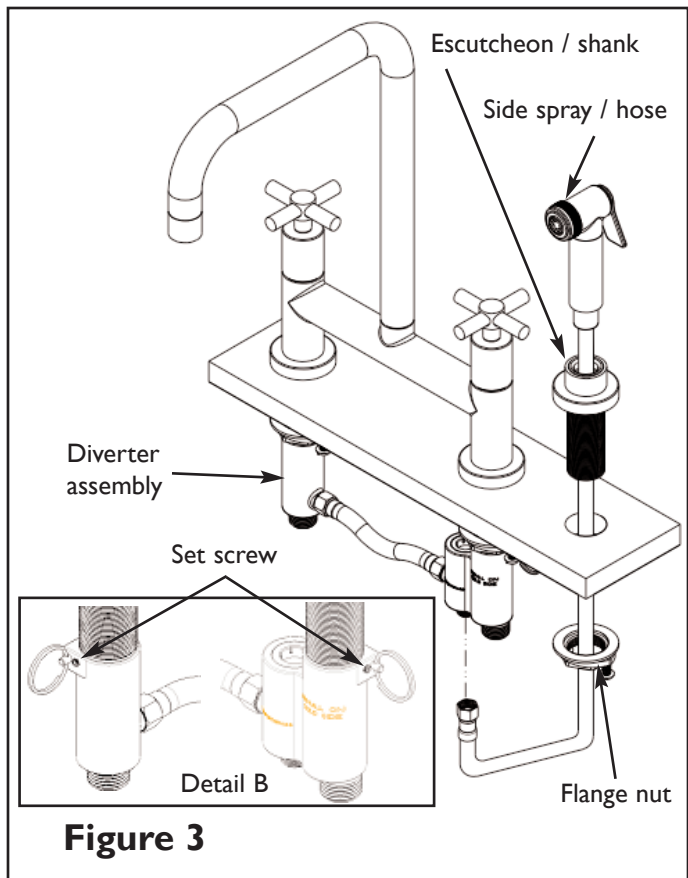

Figure 3
3. Place the side spray escutcheon with shank through mounting surface and secure into place with flange nut. See **Fig. 3**.
4. Drop side spray hose through escutcheon and thread onto diverter assembly. Do not use the adapter provided with spray assembly. See **Fig. 3**.